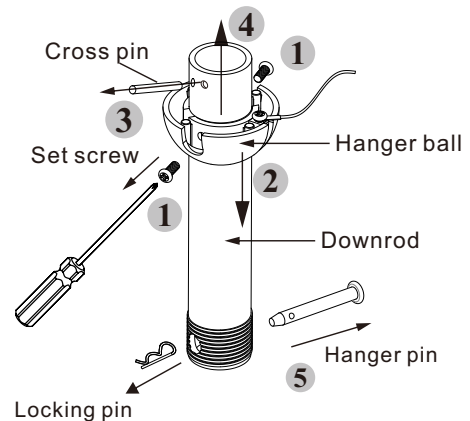

Figure 11
**b.** Remove the hanger pin, locking pin from the downrod assembly, and loosen the set screws from the the coupling (Fig. 11)